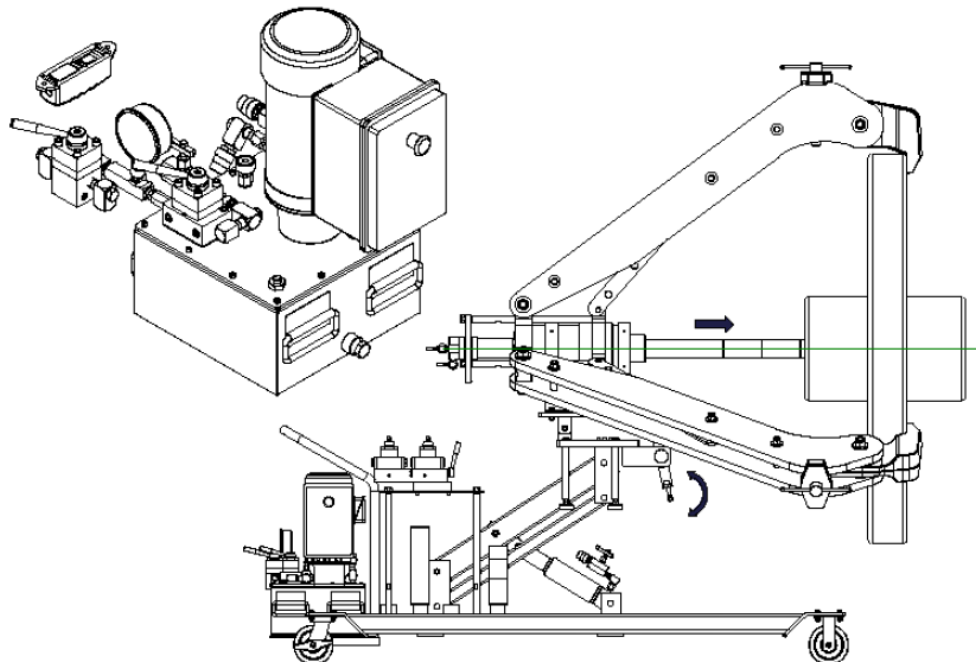

Figure 7 – Advancing the Forcing Cylinder
5.2.8 Once the puller is aligned, press the button on the remote switch to advance the forcing cylinder toward the object, stopping just as the cylinder head touches the shaft (see Figure 7).